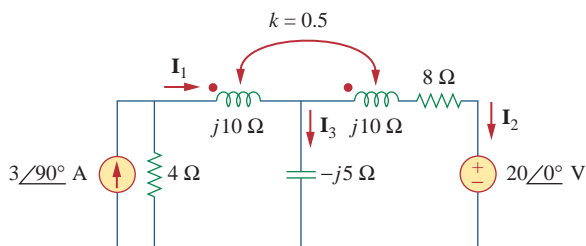

Figure 13.89
- 13.20** Determine currents I_1 , I_2 , and I_3 in the circuit of Fig. 13.89. Find the energy stored in the coupled coils at $t = 2$ ms. Take $\omega = 1,000$ rad/s.